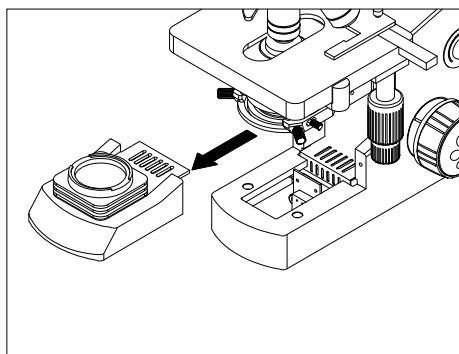

Fig. 11
1. Pull out the condenser holder as shown in Fig.11.
2. Hold the bulb (1) after you wrap it with gauze or other protection materials and then insert its pin (2) deeply into the jack in the lamp holder.